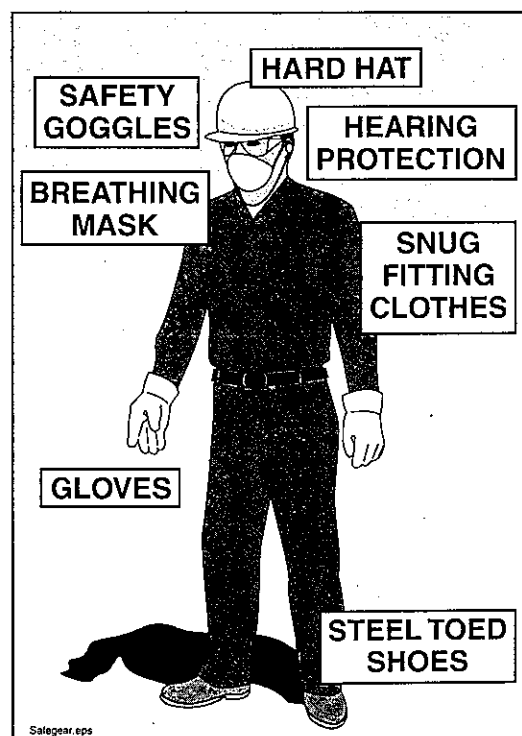

Figure 74
- ⚠ WARNING!** Wear personal protective clothing when working around a concrete pump (Figure 74). The gloves should resist concrete lime burns. If you will be working **in** the concrete, protect your feet and hands with rubber boots and gloves.